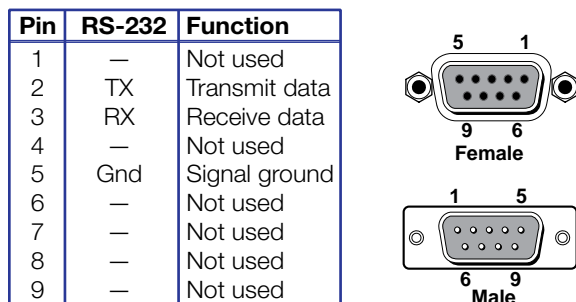

Figure 10. Remote Port Pin Assignments
- ⑧ **Remote port** — Connect a host device, such as a computer or touch panel control, to the integration scaling matrix switcher via this 9-pin D connector for serial RS-232 control (see figure 10).